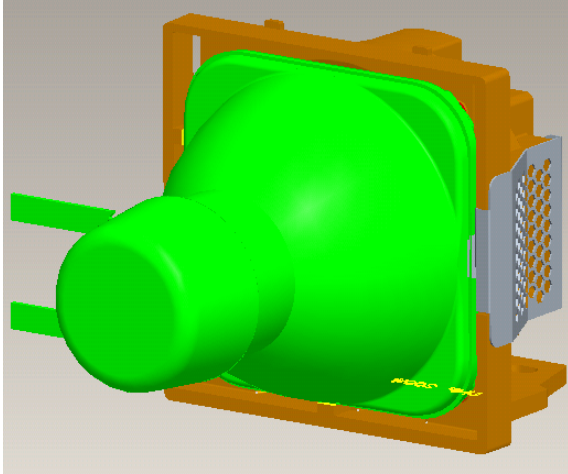

Fig. 1-11
- i. Insert Lamp into HLD Lamp and push Lamp forward to touch DTM Lamp of HLD Lamp (Fig. 1-11)